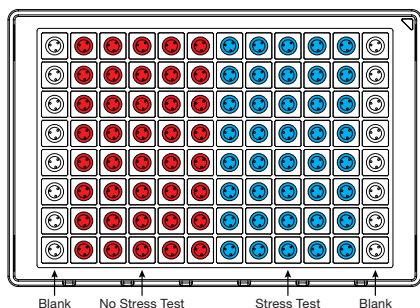

Figure 2. Example assay.
3. Use the Seahorse XF Cell Mito Stress Test assay template provided in Wave software to run the assay, or customize the template to meet the needs of your experiment. Manually set up the assay for the XF Analyzer following steps 3a–g. Figure 2 shows an example plate map comparing two groups.